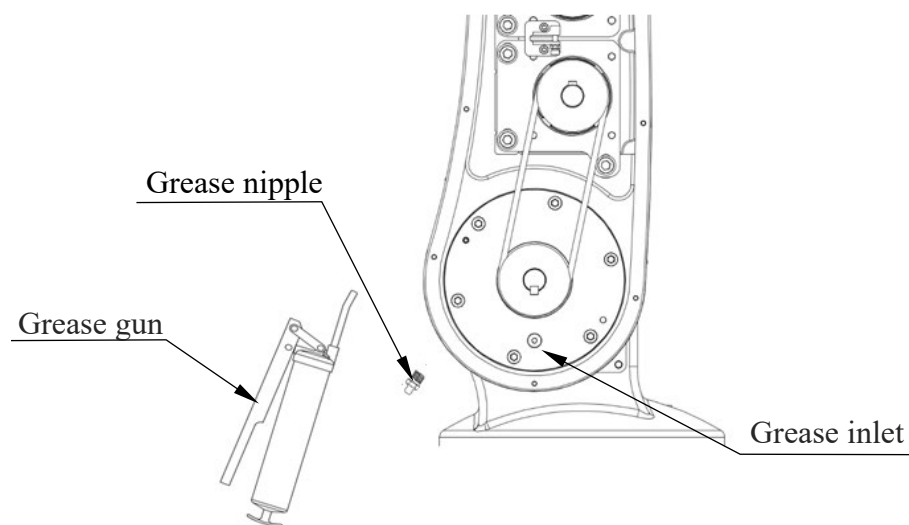

Figure 6-9 Grease replenishment
Step1. The grease inlets and the outlets of the robot are shown in Figure 6-9.